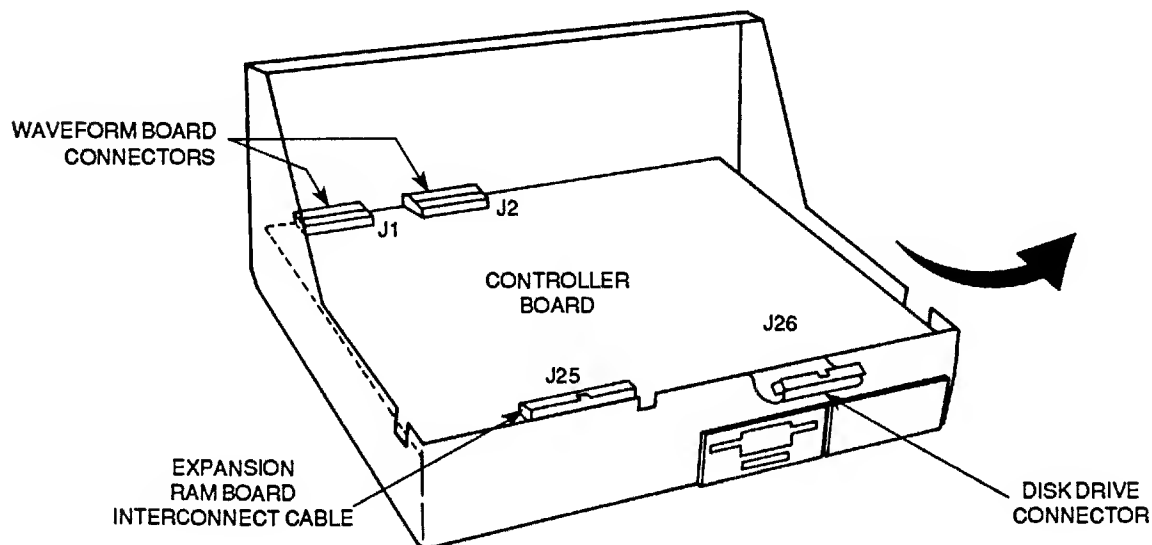

Figure 2-4. Removing the Controller Board
3. Lift up the front edge of the Controller board and disconnect the disk drive cable connector, located at J26 (see figure 2-4). If installed, also remove the Expansion RAM board interconnect cable, J25. Take special care not to lift the board vertically more than about one inch, to avoid damage to the Waveform board's connector pins.